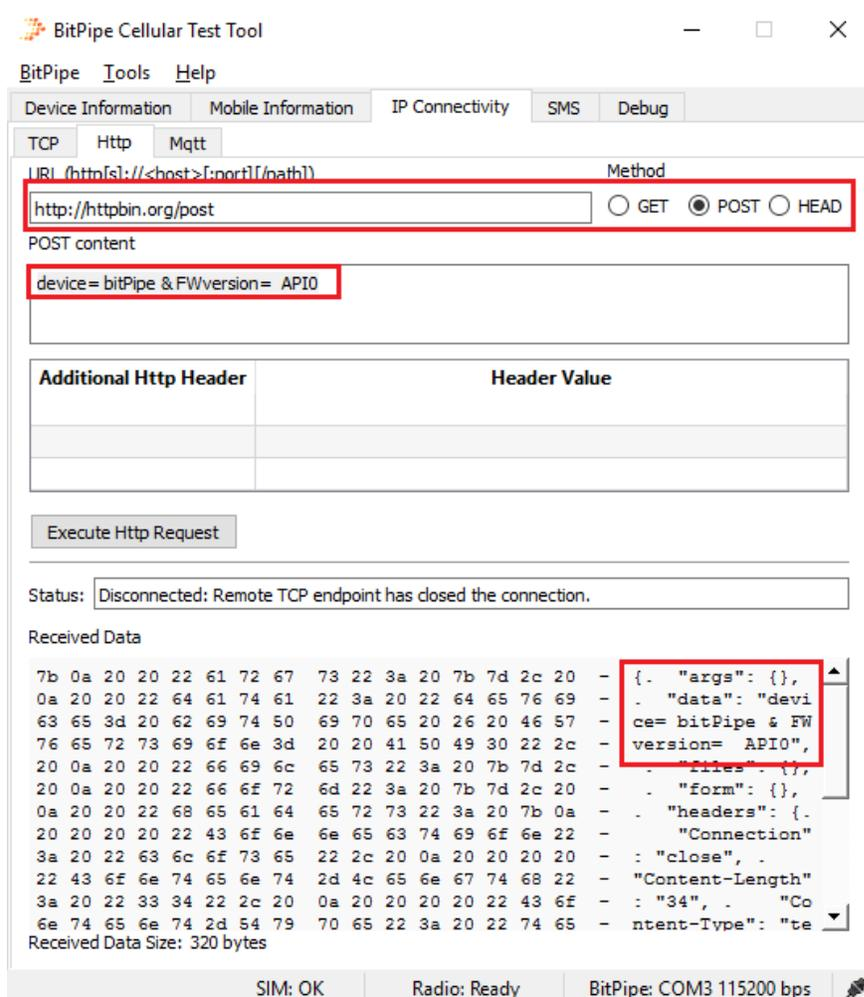

Figure 21 HTTP Post example
1. Select the “IP Connectivity” tab and then, select the “Http” tab (see Figure 21).
7. The server’s response content will be displayed in the “Received Data” section containing both hex values and ASCII characters (see Figure 21).